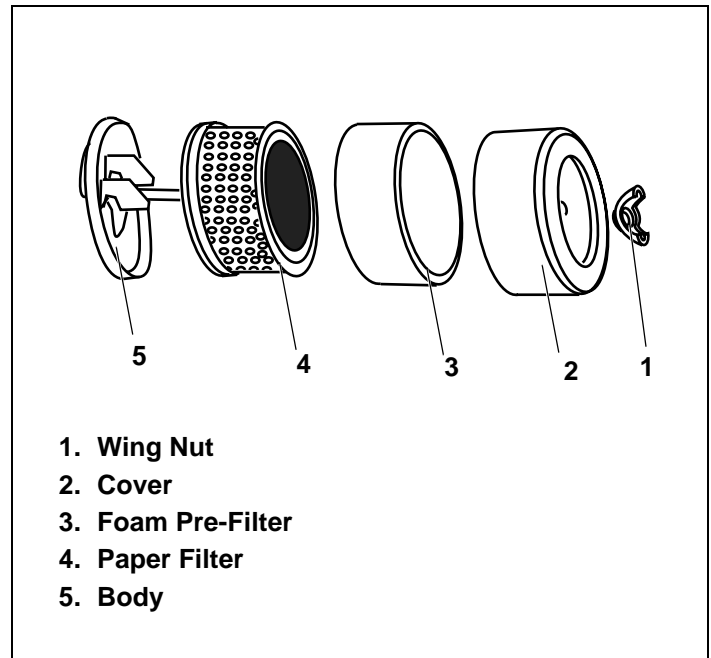

Figure 32. Air Cleaner "A"
Your engine has an air cleaner which helps prevent premature engine wear and failure. NEVER run engine without complete air cleaner installed on engine. Your air cleaner periodically needs to be cleaned or replaced. To do this, you first need to determine the type of air cleaner on your engine. Your engine will be equipped with one of the following air cleaners; Type A or B. Follow instructions for the air cleaner type that resembles your model. See Figures 32 and 33 on page 14. Afterward, continue reading instructions below.
1. Remove wing nut. See Figure 32 or 33.